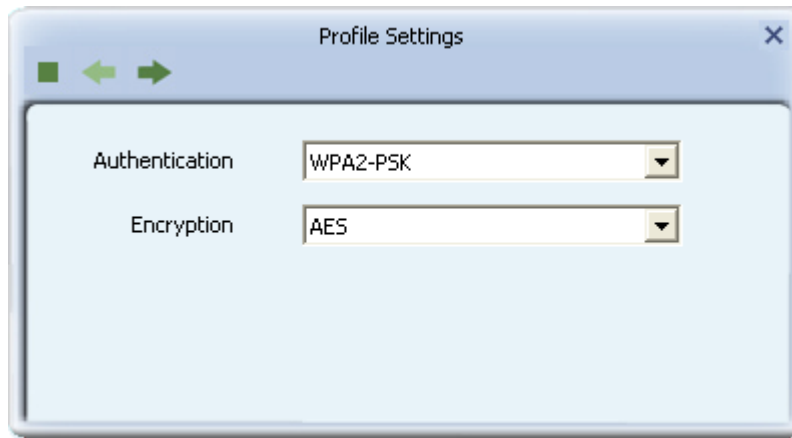

Figure 3-9: Authentication and Encryption
Step 3: Double click the wireless network name that with the best signal and the known password to open the Profile Settings screen, as shown in **Figure 3-9**.